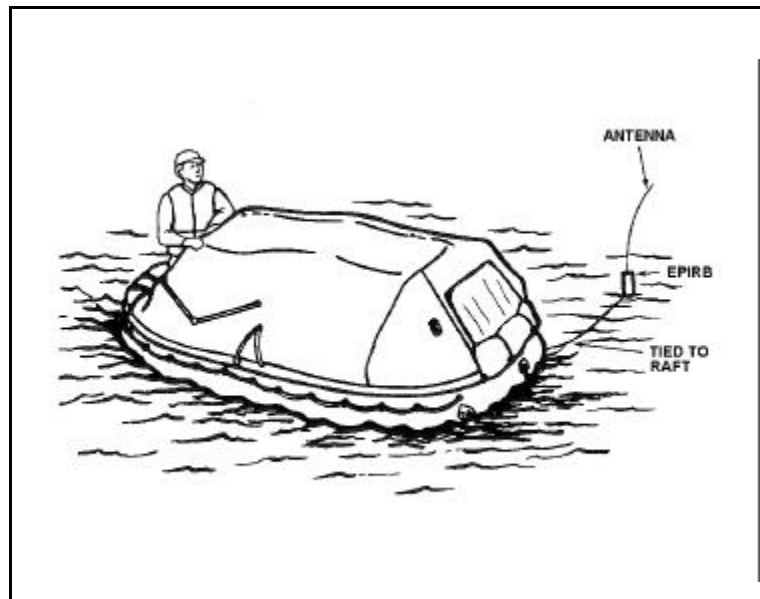

Figure 10-31. EPIRB Secured to a Life Raft
- If your EPIRB is floated, tie it to the survival craft, so it will not drift away (Figure 10-31).